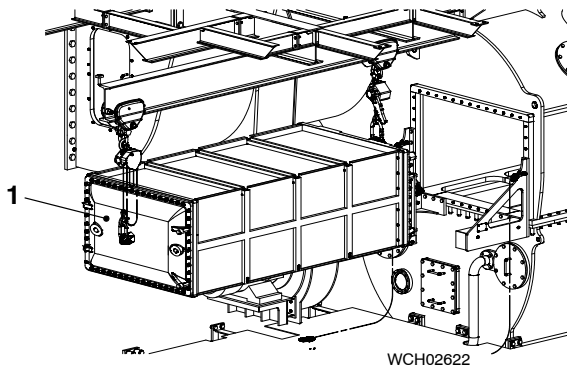

Fig. 7
- 1) Make sure that all the surfaces of the SAC (1, Fig. 7) and the related surfaces in the scavenge air receiver are clean and have no damage.
- 2) Apply a layer of silicon compound to each side of the SAC (1) and the related surfaces in the housing in the scavenge air receiver.
- 3) Use the tools that follow to move the SAC (1) to the position shown.